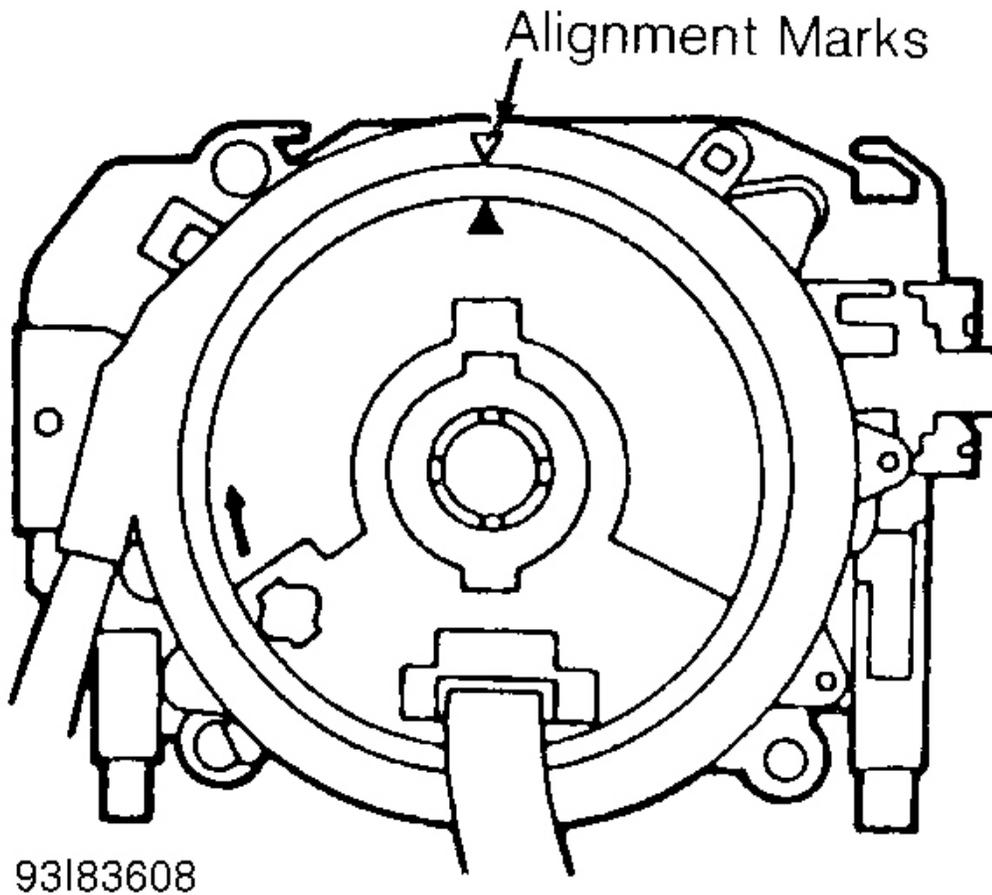

Fig. 1: Aligning Clockspring Connector Alignment Marks
2. Rotate connector 2 3/4 turns (counterclockwise). Rotate clock-spring connector further (as necessary) to align marks on connector and outer housing. See **Fig. 1** .